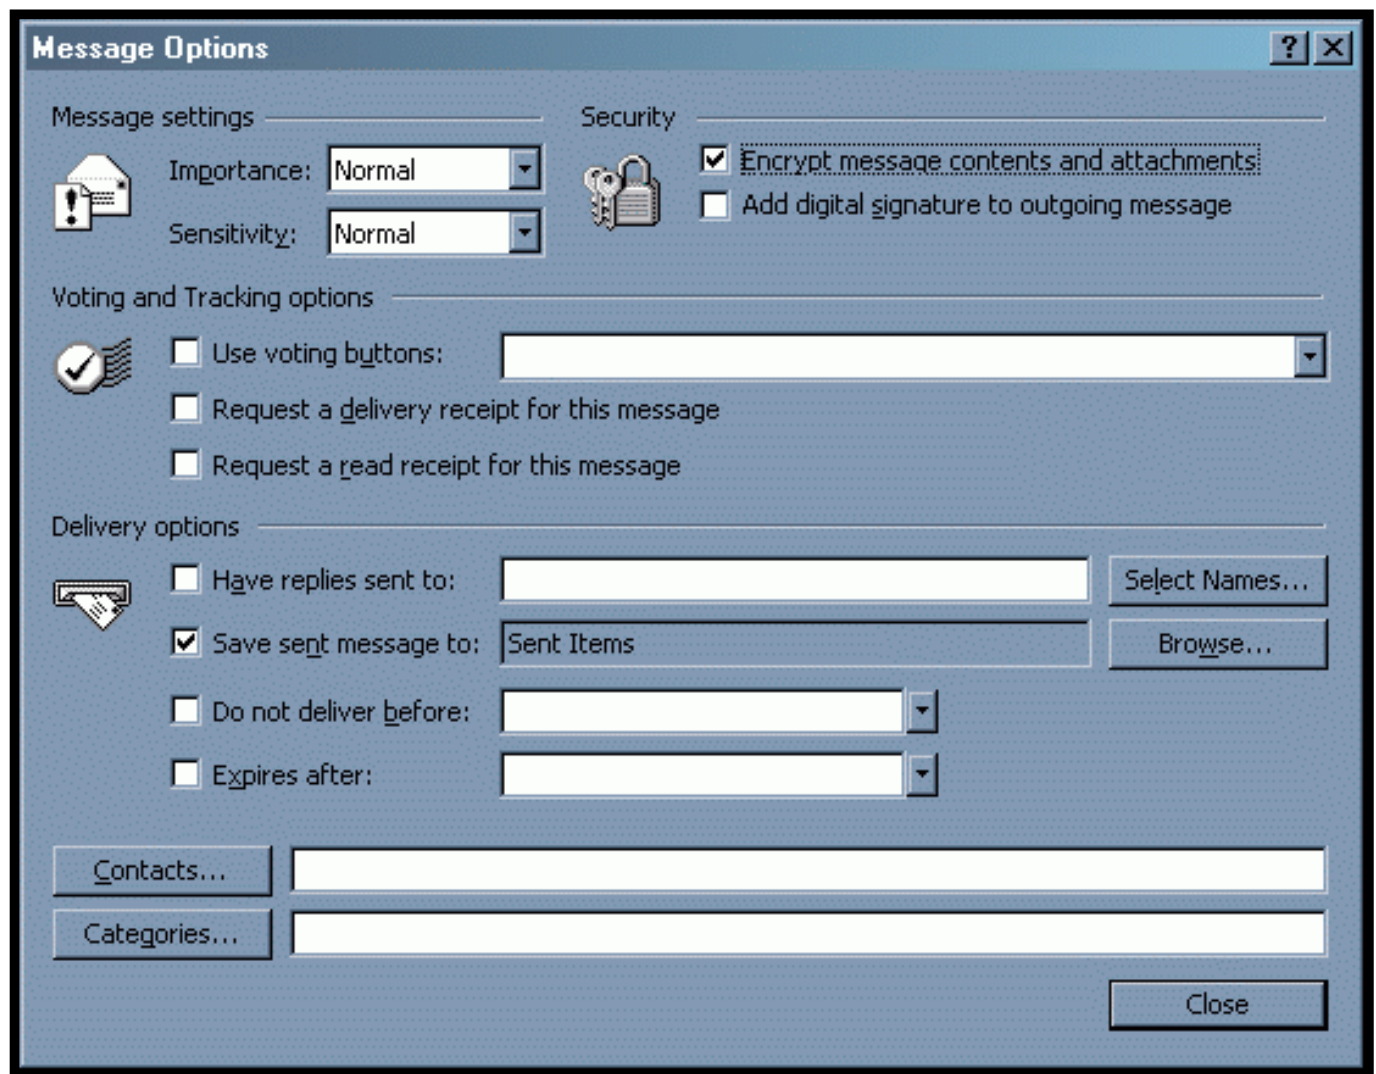

Figure 5.1.6-1: Message Options dialog box
5. Select Encrypt message contents and attachments. See Figure 5.1.6-1 below: